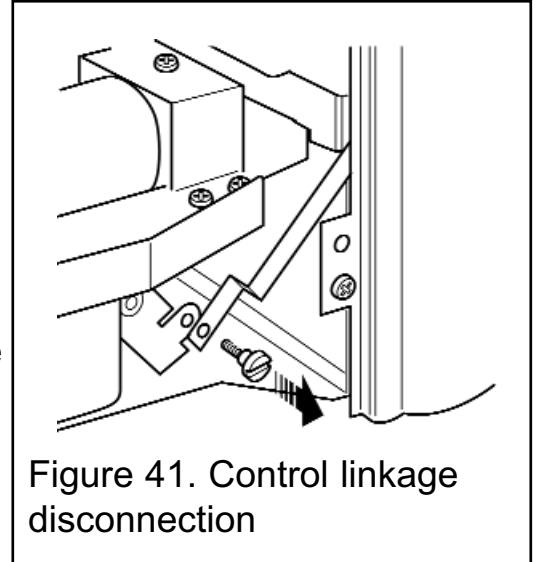

Figure 41. Control linkage disconnection
2. Remove the knurled screw securing the control linking arm to the burner (See figure 41).